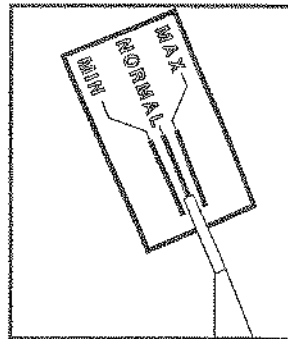

Figure 9-8. Point B, check mark
4. Check that the turntable indicator is between the min. and max. markings of the boom. The turntable indicator is located at point B of figure 9-8.